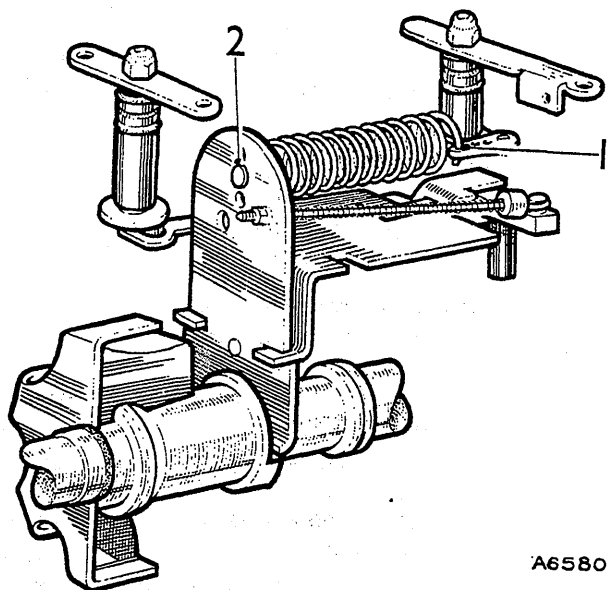

Fig. C.14
- (66) Locate the spring guide in hole No. 2 in the governor arm (see Fig. C.14) and connect the governor spring to the guide.
- (67) Insert the plain end of the shut-off bar into the slot in the control bracket and position the shut-off bar under the tab of the control cover locking washer.
- (68) Using protection cap 18G 654, fit new lower 'O' rings to the shut-off and throttle shafts. Fit a new upper 'O' ring to each shaft, using protection cap 18G 665, and pack the groove between the 'O' rings on each shaft with Shell Alvania No. 2 grease.
- (69) Press the shut-off shaft into its bore in the control cover, positioning the eccentric peg close to the edge of the control cover and projecting slightly from the joint face.
- (70) Place a new control cover joint washer in position on the pump housing, engaging the tabs with the slots under the keep plate. To ensure sealing, this joint washer should be soaked in Shell Calibration Fluid 'C' before assembly.
- (71) Connect the free end of the governor spring to No. 1 hole in the throttle shaft link (see Fig. C.14) and press the throttle shaft into its bore in the control cover. Place the control cover in position on its studs, ensuring that the shut-off peg engages the shut-off bar. Pull the shut-off shaft fully home as the control cover is lowered onto the pump housing.
- (72) Fit new sealing washers to the control cover studs, and screw on the stud nuts to the torque figure in 'GENERAL DATA'.
- (73) Place the dust caps on the throttle and shut-off shafts, fit the throttle arm and shut-off lever to their shafts and secure them in position with their nuts and washers.
- (74) Refit the inspection cover to the side of the pump housing and refit the quill shaft.
- (75) The following precautions must be observed when testing the pump: